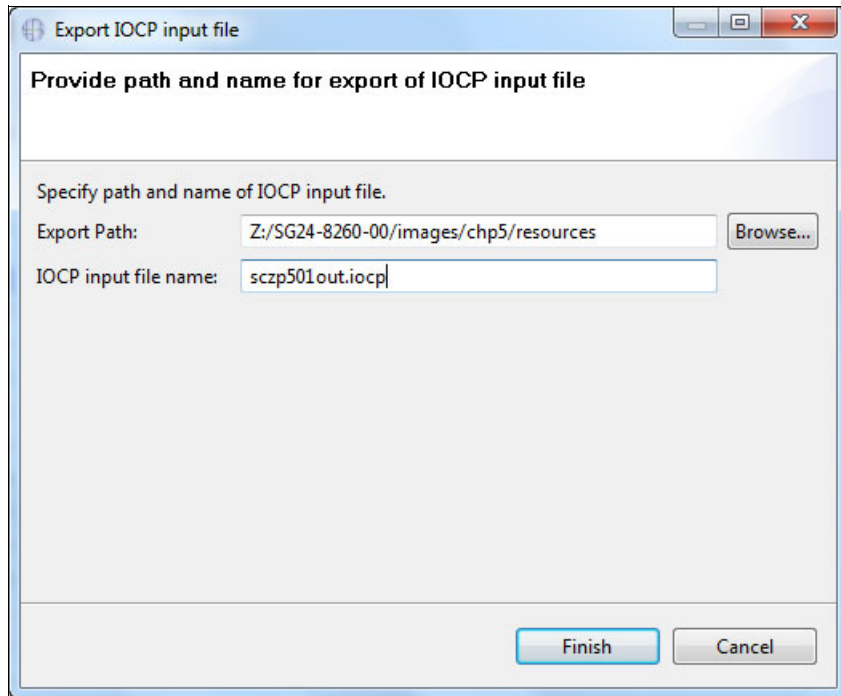

Figure 7-60 CMT - Export IOCP File
2. Enter the Export Path and IOCP Name for the IOCP output file and click **Finish** (Figure 7-60).